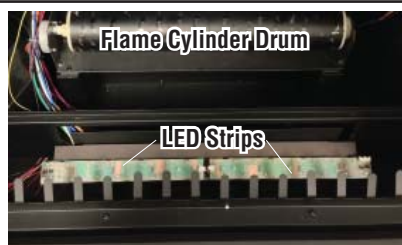

Figure 13
- i. With the ember bed removed, the 2 ember bed LED strips will be visible (see **Figures 13**).